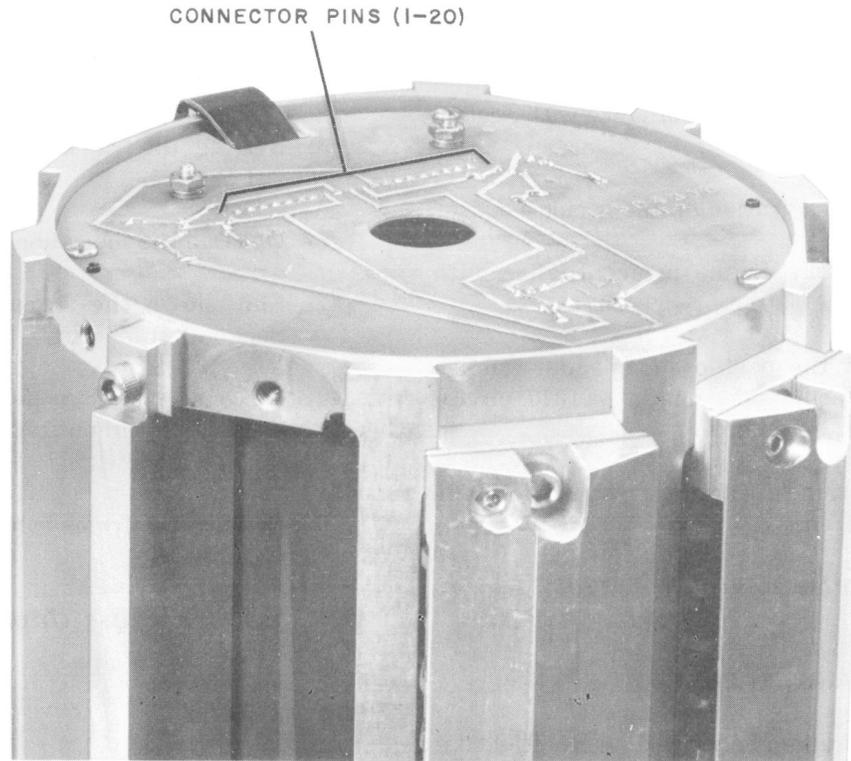

Fig. 9—Top View of Recorder Unit With Dust Cover Removed
- (a) **KS-20951 L1 Drum Storage Unit** (equipped with one ♦single channel♦ optical switch on the optical switch assembly): The voltage between pin 9 and ground (pin 8) on the optical switch assembly (Fig. 9) shall be 3 Vdc min/5 Vdc max with a 0 Vdc (nominal) pulse of approximately 100 ms duration every 4 seconds.
- (b) **KS-20951 L2 Drum Storage Unit**—Serial No. 1 through 8♦ (equipped with three optical switches on the optical switch assembly): The voltage between pins 9, 10, and 11 and ground (pin 8) on the optical switch assembly (Fig. 9) shall be 3 Vdc min/5 Vdc max with a 0 Vdc (nominal) pulse of approximately 100 ms duration once every 4 seconds at pin 9 and twice every 4 seconds at pins 10 and 11.
optical switch on the optical switch assembly): The voltage between pins 9 and 10 and ground (pin 8) on the optical switch assembly (Fig. 9) shall be 3 Vdc min/5 Vdc max with a 0 Vdc (nominal) pulse of approximately 100 ms duration once every 4 seconds at pin 9 and three times every 4 seconds at pin 10.
- (d) **KS-20951 L3 Drum Storage Unit** (equipped with one dual channel optical switch on the optical switch assembly): The voltage between pin 9 and 10 and ground (pin 8) on the optical switch assembly (Fig. 9) shall be 3 Vdc min/5 Vdc max with a 0 Vdc (nominal) pulse alternating every 0.5 seconds at pin 9 and alternating every 1.5 seconds at pin 10. ♦